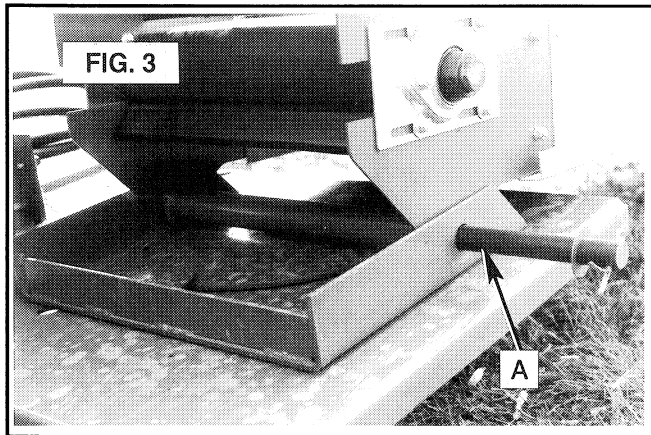
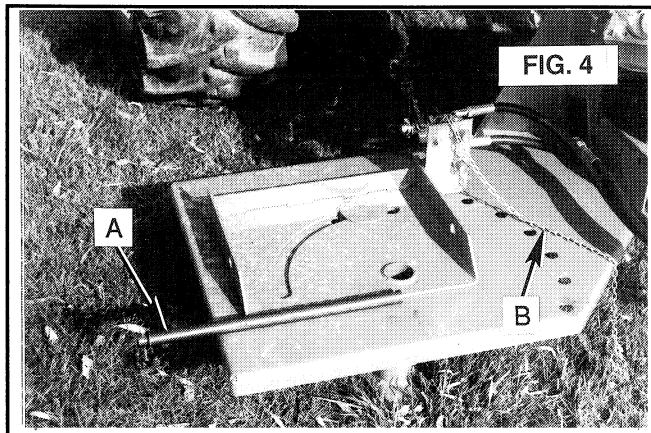

FIG. 3
FIG. 4
Prepare to mount the elevator/conveyor to the turntable (Fig. 3) by removing the cotter pin and washer from the inner end of the elevator pivot shaft (Fig. 3-A). Unwind chain (Fig. 4-B) from the shaft and remove the shaft from the turntable. Two persons can now set the elevator up on the turntable as shown in Fig. 3. Insert elevator pivot shaft through the mating holes in the turntable and base of the elevator (Fig. 3-A). Reinstall flatwasher and cotter pin.
In addition to the basic row frame, gearbox, knife rolls, and lower mounts shown in Fig. 21, we now add the gearbox cover plate Fig. 4 (A), the right hand (B) and left hand (C) stripper plates (shown shaded) and the right hand (D) and left hand (E) gathering belt guides. Stripper plate spacing is adjusted by loosening two 1/2" nuts (G) on each side of the row and turning either the inner or outer adjusting nut (H) to move the stripper plate in the desired direction.